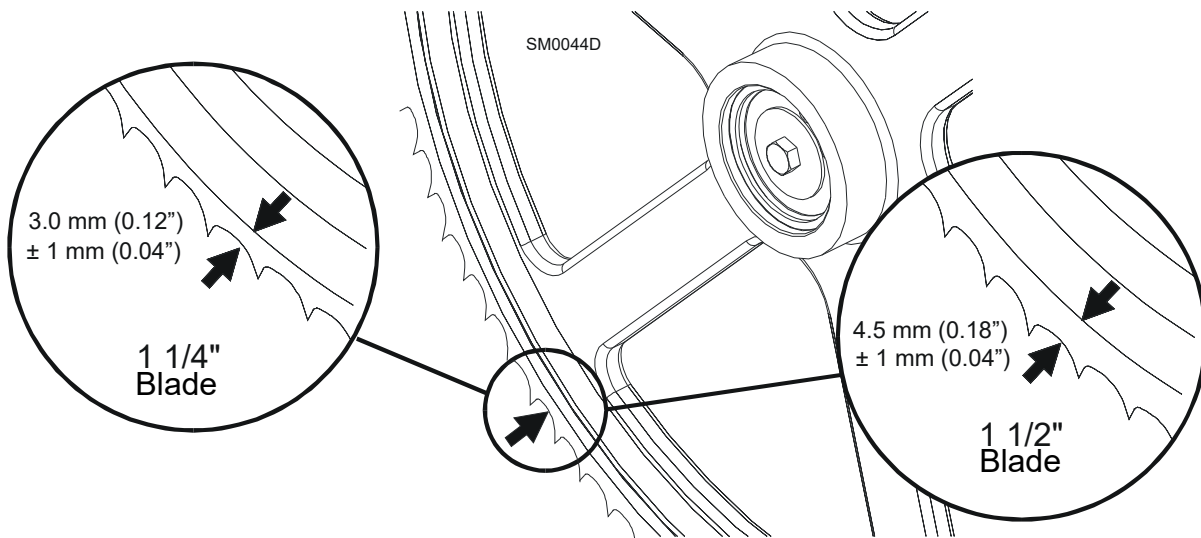

FIG. 5-2
**See Figure 5-2.** The blade wheels should be adjusted so that the gullet of 1 1/4" blades rides 3.0 mm (0.12") out from the front edge of the wheels ( $\pm 1.0$  mm [0.04"]). The gullet of 1 1/2" blades should ride 4.5 mm (0.18") from the front edge of the wheels ( $\pm 1.0$  mm [0.04"]). Do not let the teeth